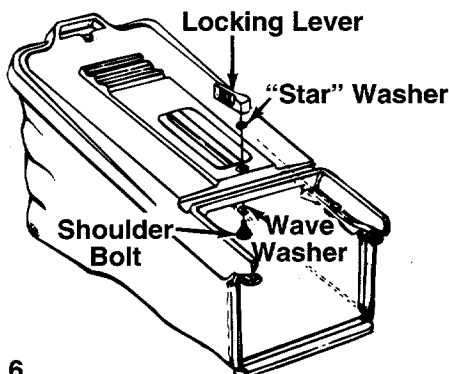

FIGURE 6.
- b. Insert shoulder bolt up through hole in hardtop cover as shown in figure 6. Place "star" washer over shoulder bolt.